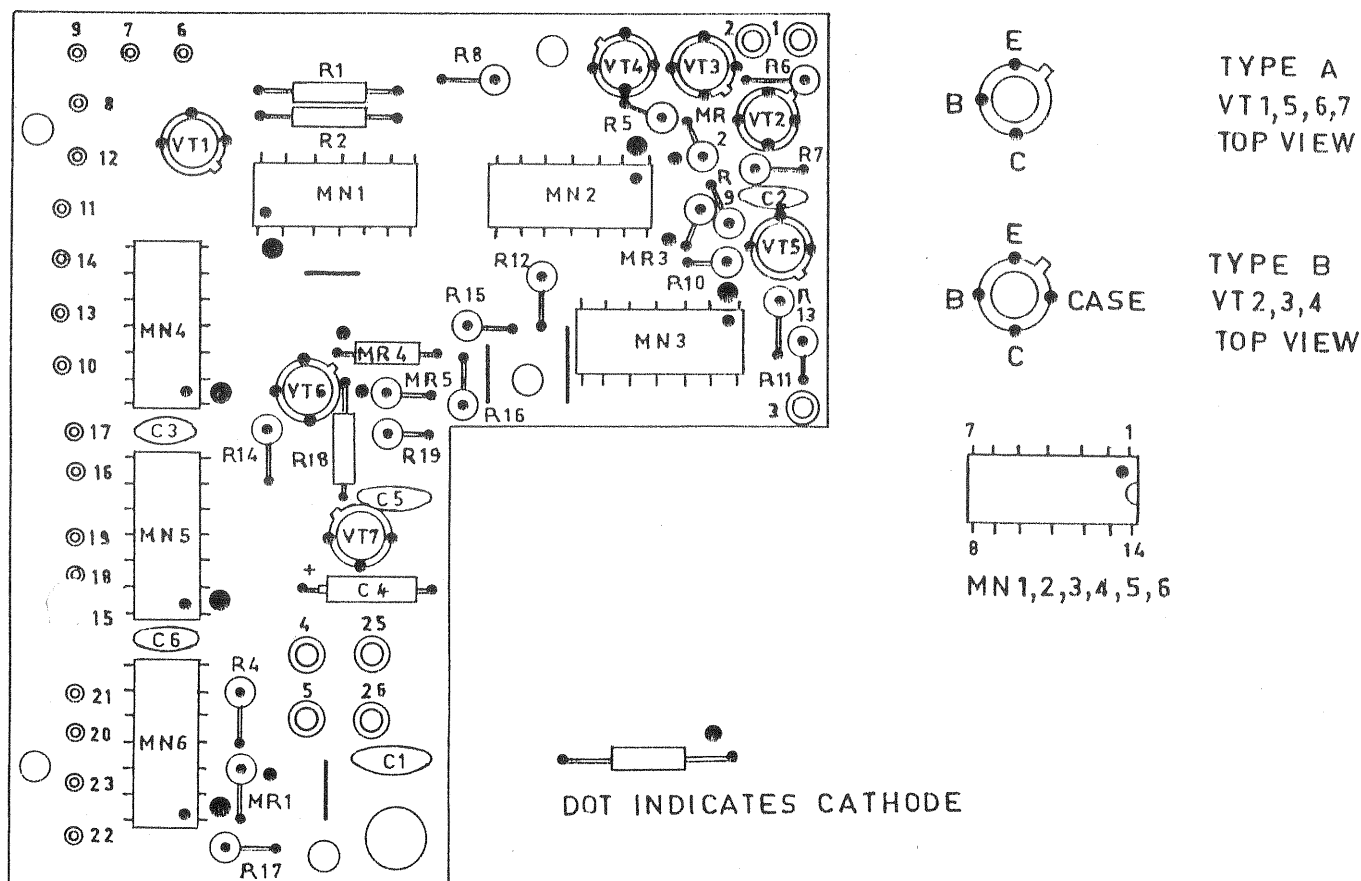

FIG 2 - FREQUENCY DIVIDER BOARD 10-1CB1 - COMPONENT LAYOUT
- a. **Fig 2.** Gives details of the interconnections of the frequency determining switches.
**Frequency Divider Board 10-1CB1 (See Fig 2)**
- c. Check for correct type of components as shown on the component assembly drawing, (See Fig 2) and pay particular attention to the polarity of rectifiers and electrolytic capacitors.